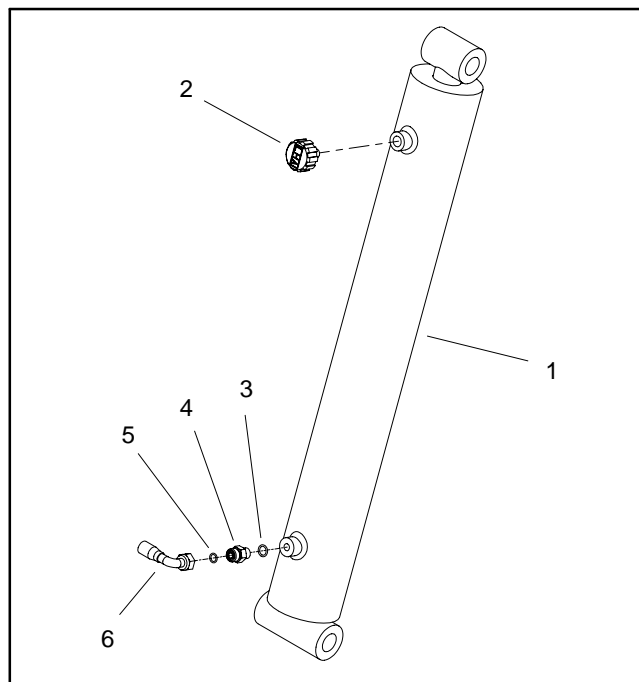

Figure 21
3. Disconnect hydraulic hose from hydraulic fitting on lift cylinder (Fig. 21). Locate and discard O-ring from between hose and fitting. Allow hose to drain into a suitable container.
5. Remove lock nuts (item 5) and cap screws (item 3) that are used to retain lift cylinder pivot pins (items 4 and 7) to sweeper frame.
8. If needed, remove hydraulic check valve fitting and O-ring from the lift cylinder (Fig. 21). Discard O-ring.
1. If removed, install hydraulic check valve fitting and new O-ring into lift cylinder (Fig. 21) (see Hydraulic Fitting Installation in the General Information section of this chapter).